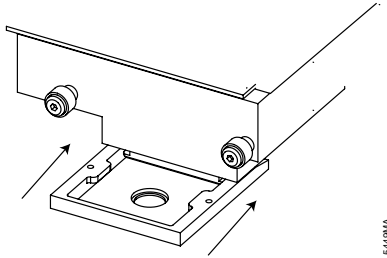

Figure 21. Replacing the optical head mask.
9. Return the optical head mask to the optical head. Align the mask with the optical head and gently guide the mask onto the optical head (Figure 21).